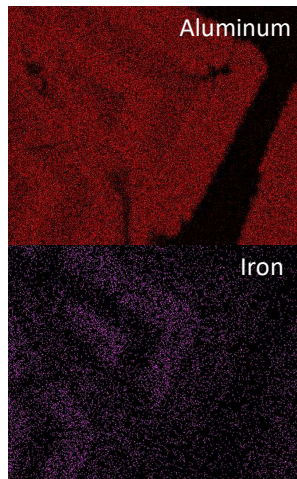

Figure 5: Chemical maps of crystal 2-49-319-2 showing concentrations of iron and aluminum.
- Chemical maps of sample 2-49-319-2 were made on WWU's SEM (Figure 5)
- Data from UW revealed the light bands have a higher Fe content than the dark bands (Figure 1) and in chemical maps (Figure 5)